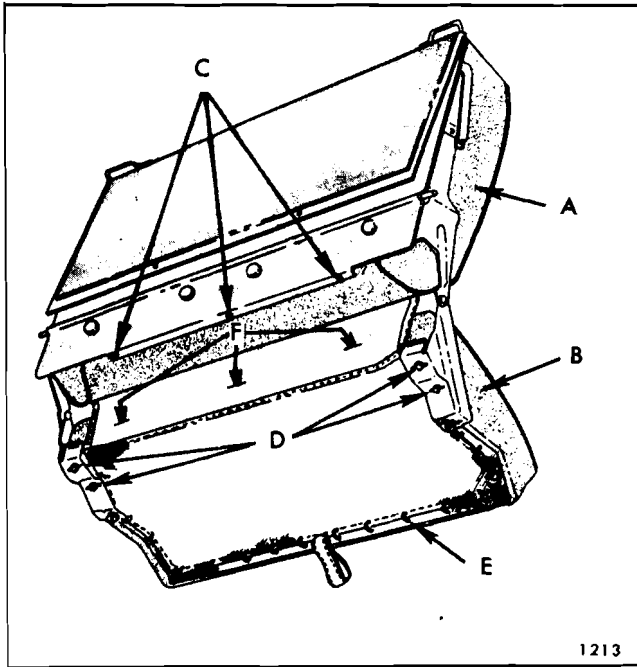

Fig. 15-93—Folding Third Seat Assembly
2. Remove hog rings securing seat back trim flap to bottom of seat cushion (Fig. 15-93).
frame (Fig. 15-93) and three screws securing rear edge of seat cushion trim to seat cushion frame; then, remove cushion trim assembly from cushion frame.
3. To remove seat back trim assembly remove seat back trim-to-seat back panel attaching screws (Fig. 15-93); then, lift trim assembly upward to disengage wire loops on seat back trim from slots in seat back panel and remove trim assembly.